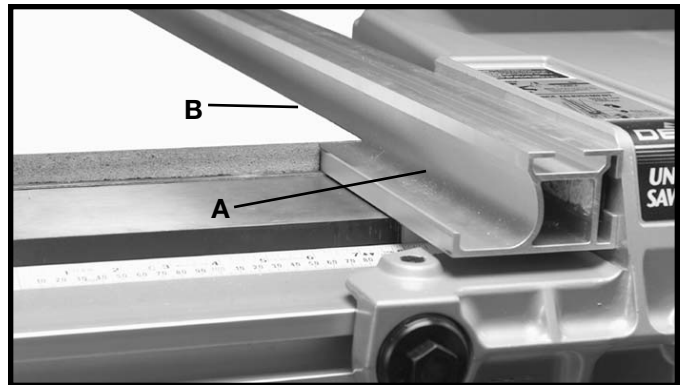

Fig. 48
When ripping material with a veneer facing that extends over the material, the fence (A) should be in the horizontal position with the veneer (B) extending over the lip of the fence, as shown in Fig. 48.